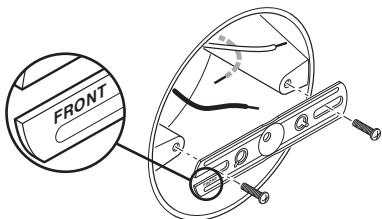

Figure 2
2. Install the mounting bracket with the stamped word "FRONT" facing away from the junction box (see Figure 2). Use the mounting bracket screws that best fit the junction box.